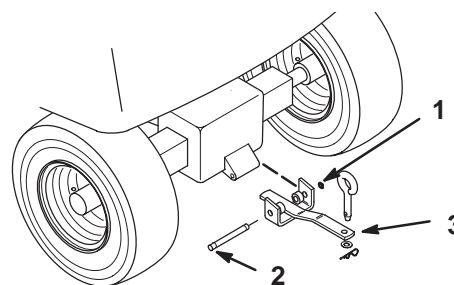

Figure 11
1. Remove snap ring from pin and slide from drawbar and spacers. Remove hitch from tractor (Fig. 11).